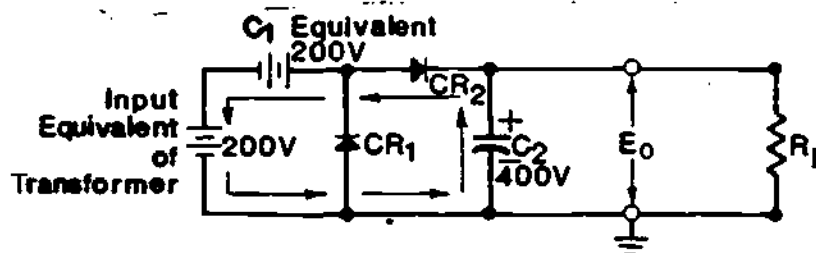

figure 11
12. Figure 11 is a modified schematic for the half-wave voltage doubler explained in this lesson. The difference is that batteries have been substituted for the transformer secondary and capacitor C1. These batteries are shown as equivalents in Figure 11.
The series aiding shown in Figure 11 results in capacitor C2 charging to the sum of the voltages across C1 and the transformer secondary. This results in an output voltage across R_L of 400 volts.